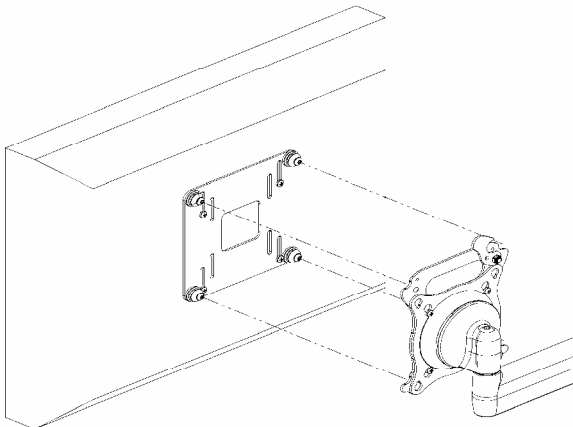

Figure 5
6. Place your small flat panel display; with interface bracket attached, onto the quick release bracket, making sure it is securely seated (see Figure 5).